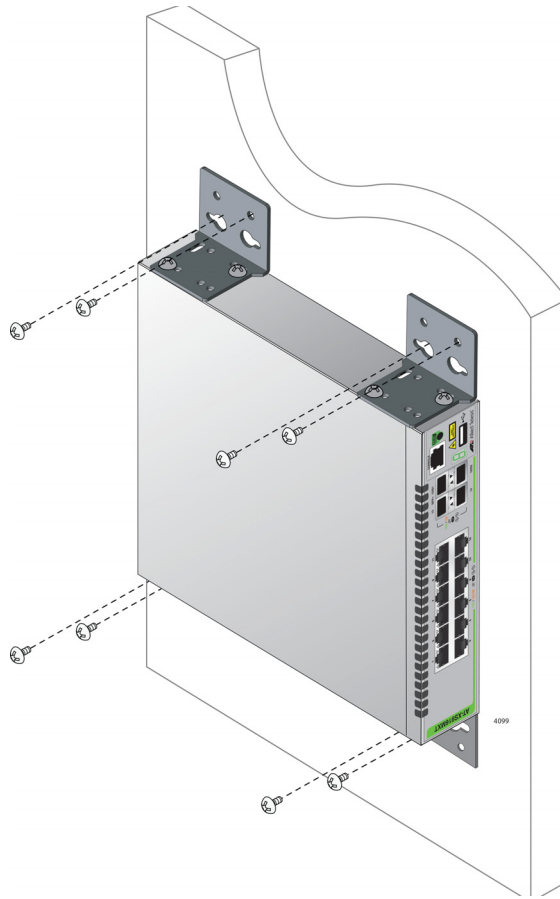

Figure 24. Installing the Switch on the Wall
5. Using a flat-head screwdriver, remove the rubber feet from the bottom of the switch. See Figure 24.